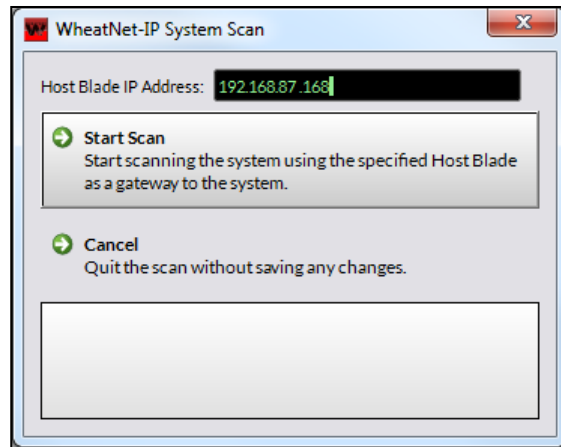

Figure 3-27 System Scan Pop-up
To run a **System Scan**, select the menu item *WheatNet-IP System > System Scan...* A popup System Scan window opens (Figure 3-27 on the next page). If the *Host Blade IP address* is not populated enter the Mix Engine's CPU IP address: 192.168.87.168 then click *Start Scan*. This operation queries the Mix Engine CPU and every other Blade connected in the WNIP system. The Status window shows various messages as it runs. When the scan completes, *Cancel* changes to *Finish*. Click *Finish* and a "save system info?" dialog pops up. Click *Yes* to save the system info, then click *Save* and *Yes* to overwrite the default data file so the next time the Surface Setup app is opened it shows your system's information.
- ❖ *System Scan...* opens the window shown in Figure 3-27 so that a new system scan can be run to update the system info file. When the System Scan finishes you typically save the system info, writing over the generic sysinfo.wnisi3 file in the SysInfo folder. If the app will connect to multiple systems, the SysInfo file name should be edited to give each system a unique system info file name.